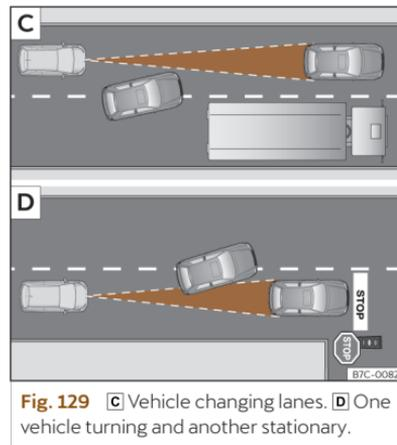

Fig. 129 **C** Vehicle changing lanes. **D** One vehicle turning and another stationary.
- Vehicles that move into your lane, a short distance from your vehicle >>> **Fig. 129 C**.
The ACC may not react to stationary vehicles. If, for example, a vehicle detected by the ACC turns or moves over and there is a stationary vehicle in front of it, the ACC will not react to the second vehicle >>> **Fig. 129 D**.